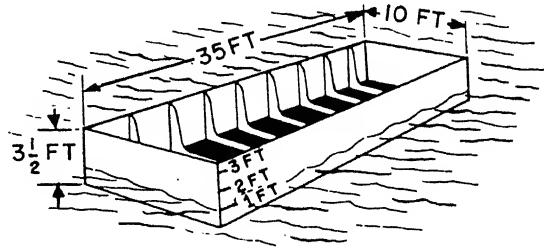

Figure 2A.
- 2-5. When the rectangular barge of figure 2A floats empty in sea water, its waterline is at the 1-foot mark. How much does the empty barge weigh?
- 2-6. What is the approximate reserve buoyancy of the barge in figure 2A when it is carrying cargo and displacing 30 tons?
- 2-9. Assume that after loading, the barge in figure 2A weighs 20 tons. What is its freeboard?